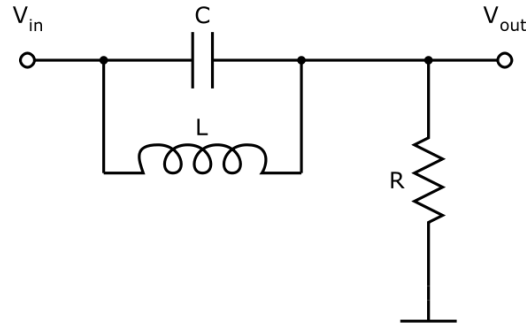

Figure 5: Passive electric bandstop filter in problem 6.
6. The electronic circuit in Figure 5 is a bandstop filter. The relationship between the input and output voltage is given by